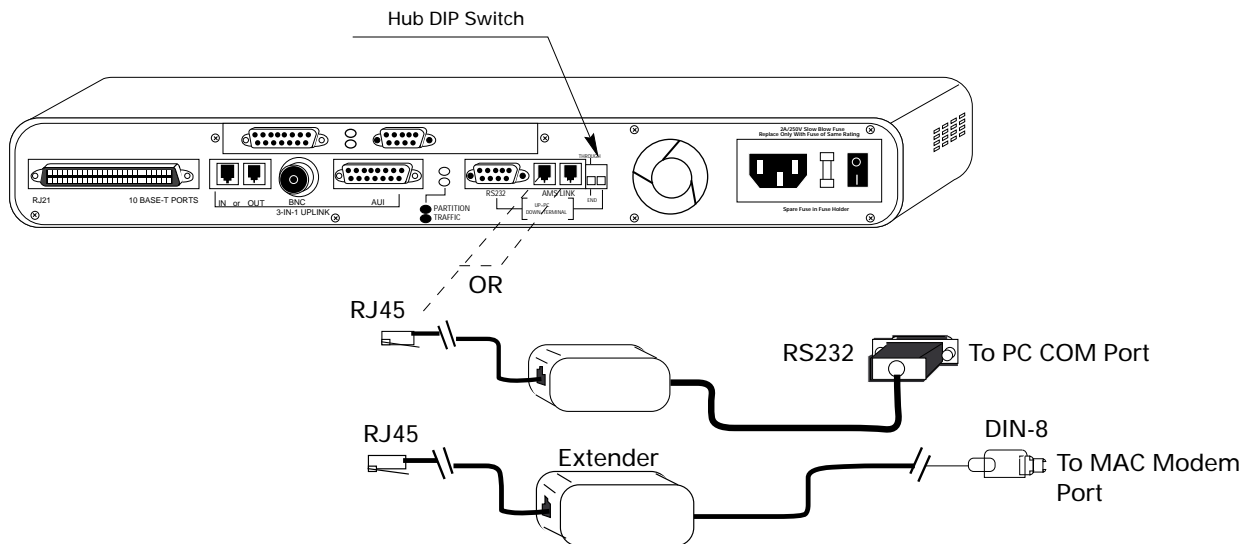

Figure 2-11 Connecting the AMS Link Extender
- 1 Connect the RJ45 connector on the AMS Link Extender to the AMS Link Port on the rear panel of the AsantéBridge 1012 as shown in Figure 2-11. You can use either port.